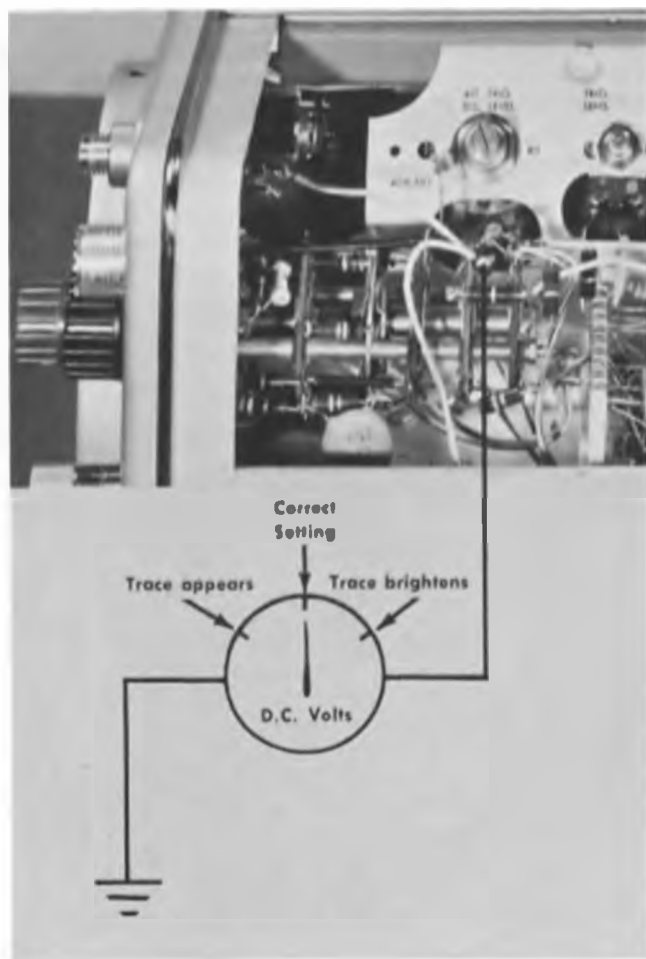

Fig. 6-7. Adjustment of the PRESET STABILITY control.
11. PRESET STABILITY R111.* Set the red TRIGGER SELECTOR control to the AUTO. position. Set the PRESET STABILITY control (screwdriver adjustment, front panel) to its fully counterclockwise position and connect a voltmeter between the center arm of the PRESET STABILITY potentiometer and ground (see Fig. 6-7). Next, advance the PRESET STABILITY control clockwise until a trace first appears on the crt. Note the voltmeter reading for this setting of the control. Then, advance the PRESET STABILITY control further clockwise until the trace brightens and note the voltmeter reading for this setting. Finally, back off the control until the voltmeter indicates a reading midway between the two previous readings. Disconnect the voltmeter.